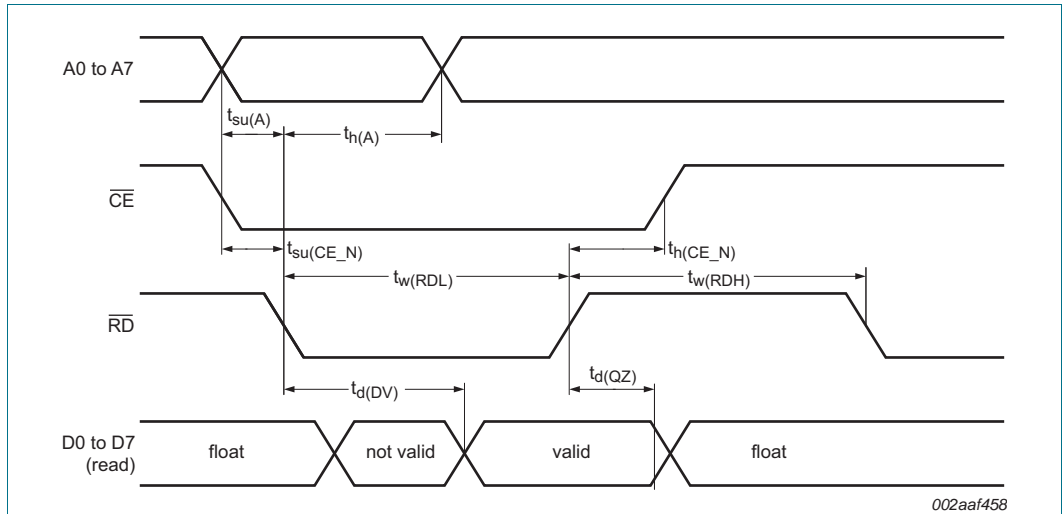
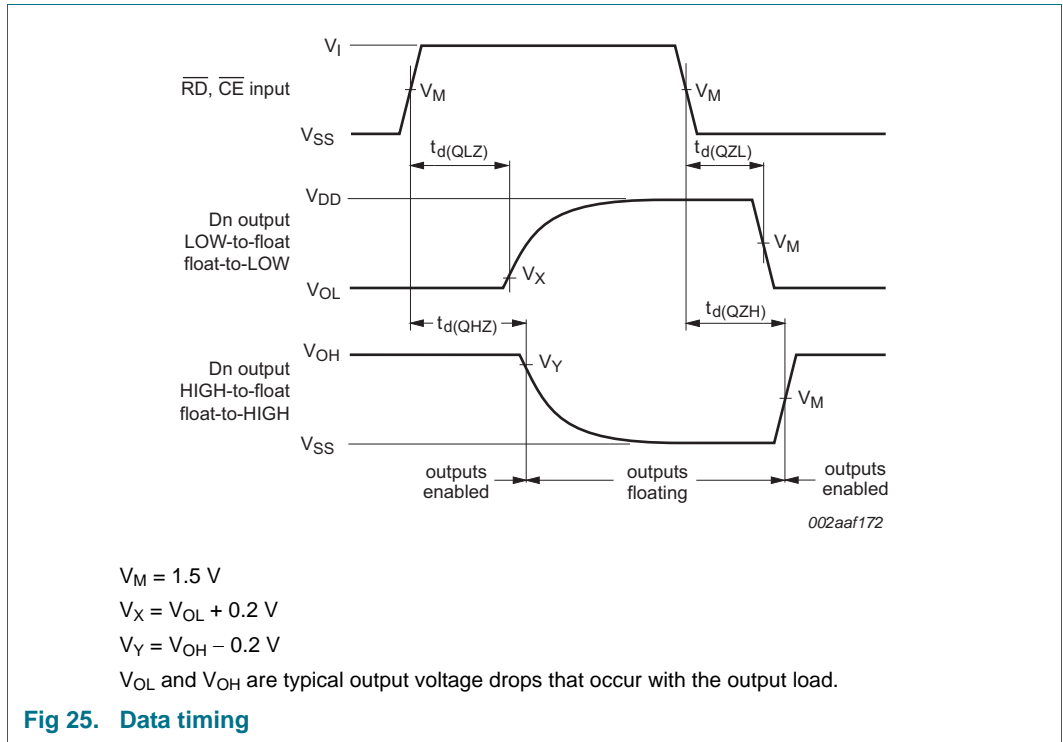

Fig 23. Bus timing (read cycle)
Fig 25. Data timing
Bus timing (see Figure 23 and Figure 25)
- [2] All voltage measurements are referenced to ground ( $V_{SS}$ ). For testing, all inputs swing between 0 V and 3.0 V with a transition time of 5 ns maximum. All time measurements are referenced at input voltages of 1.5 V and output voltages shown in Figure 23 and Figure 25.